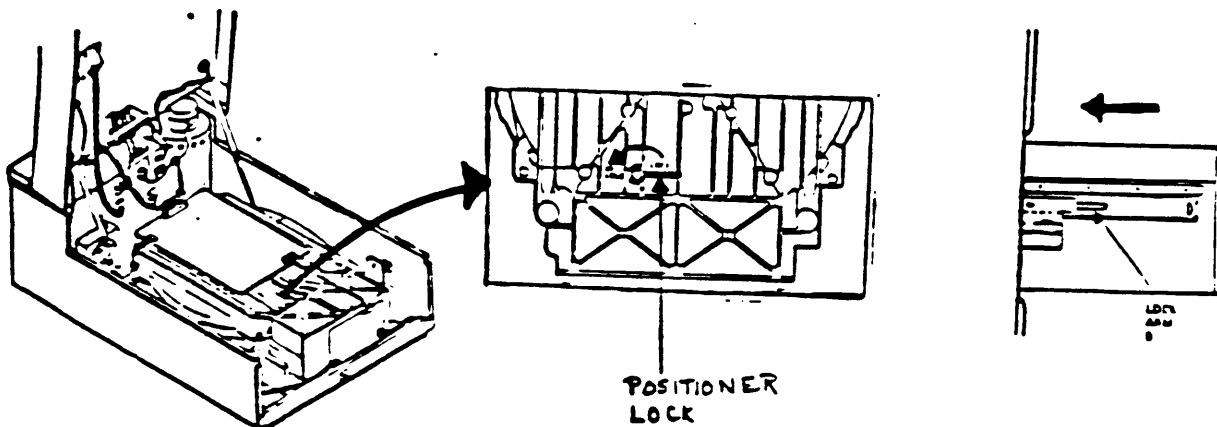

Figure 2-31. Unlocking the Positioner in the RA81 Disk Drive (3 of 3).
- o Lift and rotate the positioner lock from the lock to the unlock position (see Figure 2-31).